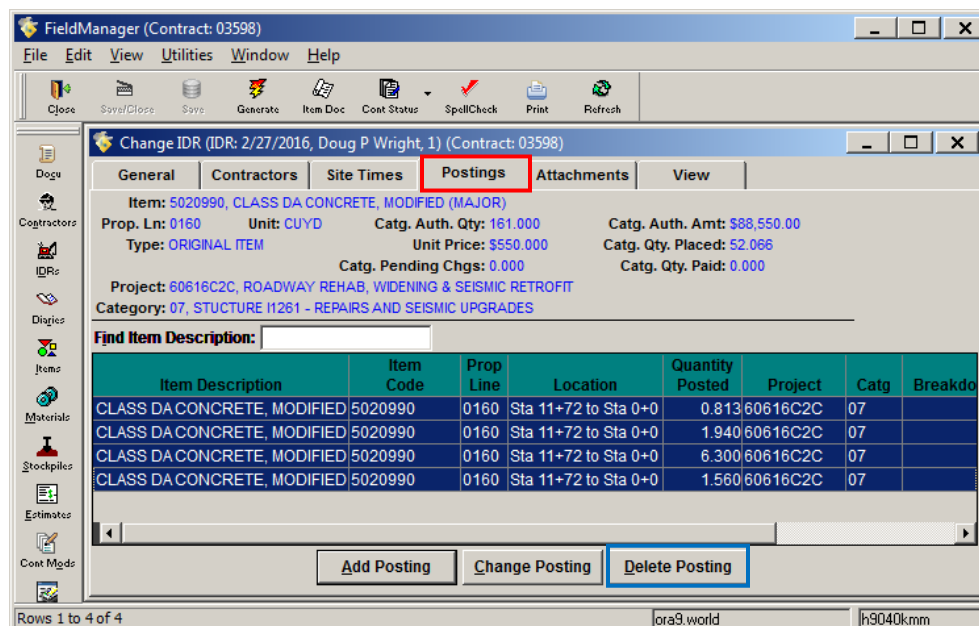

Figure 7-13. Change IDR Window – Postings Tab
3. Click on the **Postings** tab (Figure 7-13).
4. Select all the postings in the IDR by holding down the shift key and clicking on each record. Click the **Delete Posting** button (Figure 7-13).